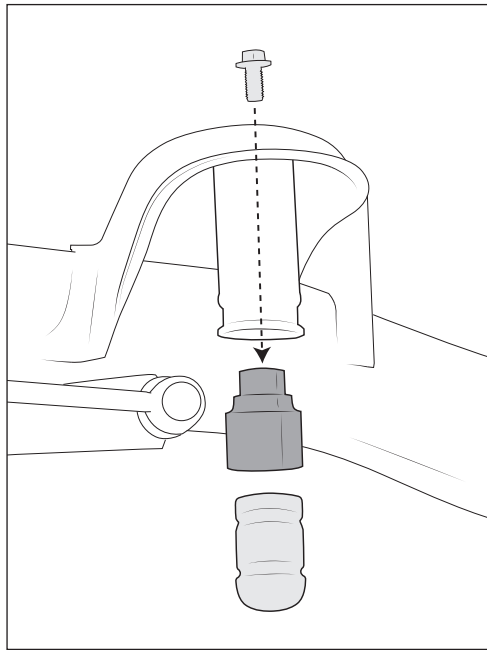

Figure 17
- B. Reinstall urethane bumpstops into new aluminum extensions (Fig 17). Lube them with glass cleaner or detergent to make install easier.
- C. Install extensions into factory bumpstop mounts. Using magnet or socket extension, install M12x25 flange bolt from top of spring tower (Fig 17). Torque bolts to 40 ft-lb